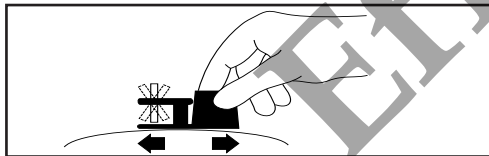

FIGURE 7
- Following the direction of the arrow on the device, slowly move the base of the MAGNA-FINDER™ back and forth over the tissue surface, as shown in Figure 7. The magnet of the MAGNA-FINDER™ will indicate the location of the injection site on one plane.